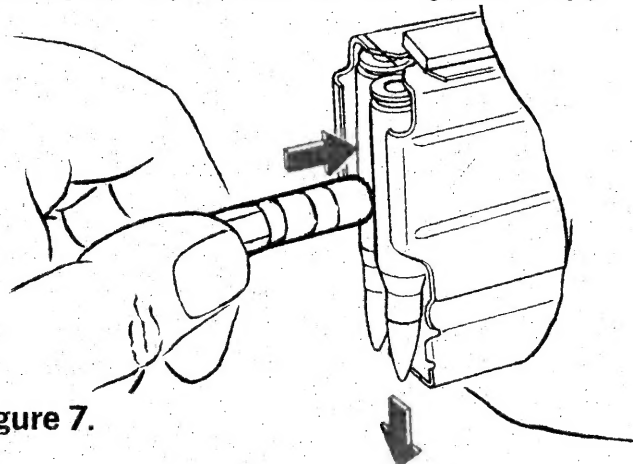

Figure 7.
d. UNLOADING THE MAGAZINE — When emptying the magazine, follow this procedure to avoid damaging the lips of the magazine: Depress the center of the second cartridge in the magazine with the end of a pencil or similar object as shown in Figure 7 and the top cartridge can be dropped out of the magazine. Repeat this procedure until the magazine is empty.